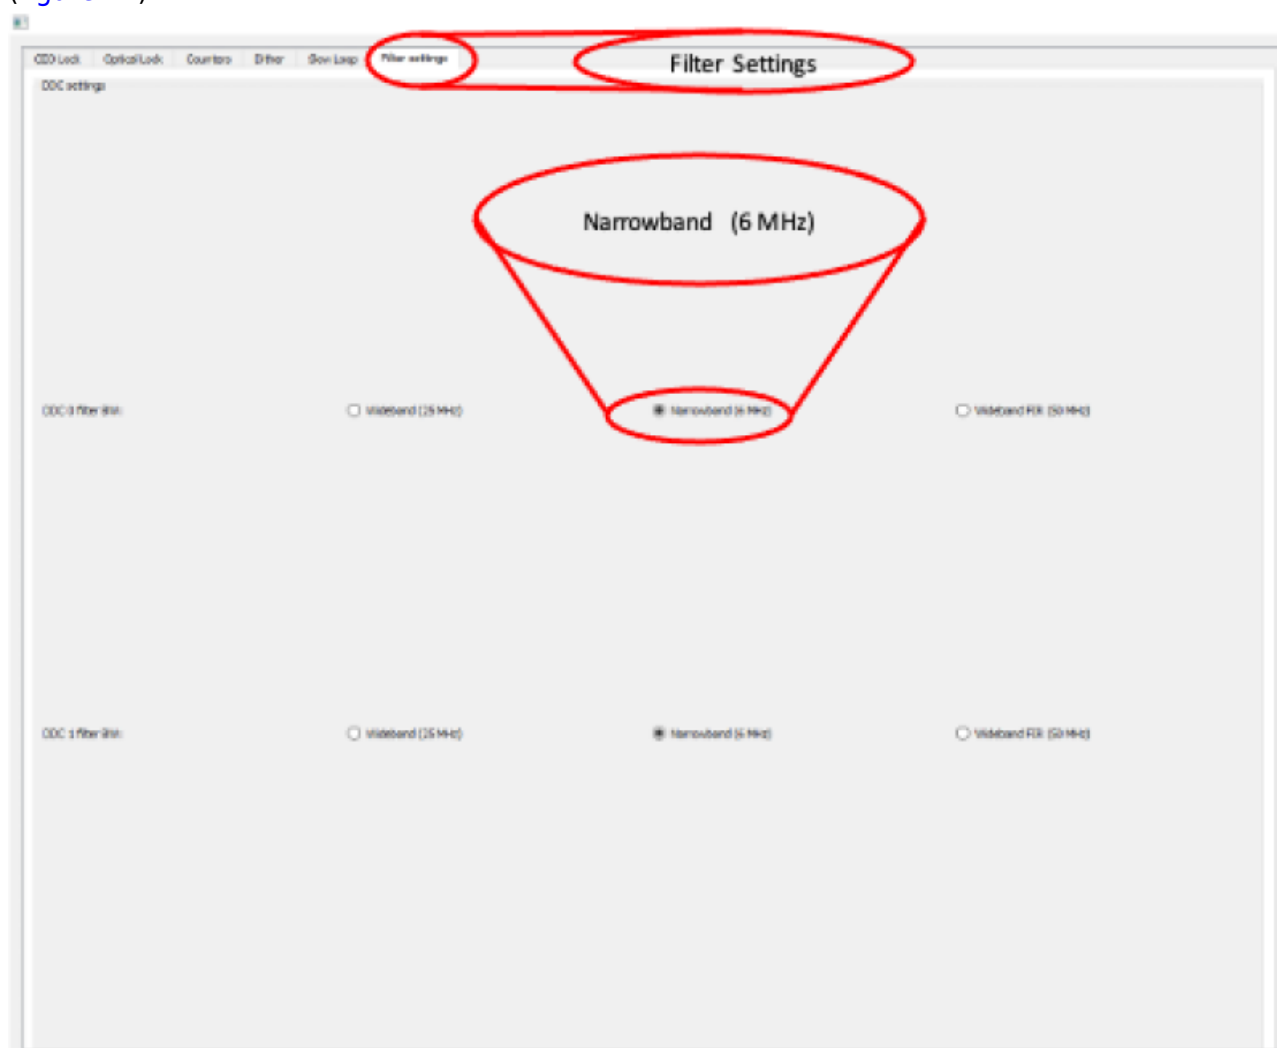

Fig. 12: Set Loop Filter Bandwidth
4. Navigate to the “Filter Settings” tab and select “Narrowband (6MHz)” for both DDC0 and DDC1 (figure 12).